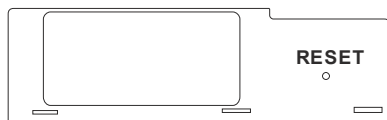

Figure 78
1. Press and hold, using a pointed object, the receiver's reset button until you hear two acoustic signals (see **Figure 78**).